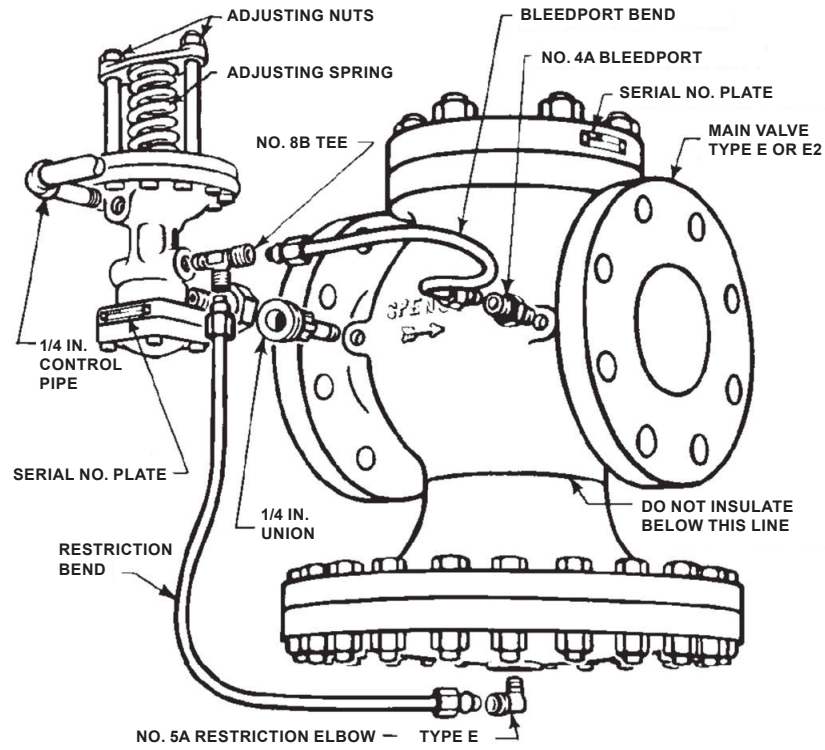

Figure 4. Mounting Pilot on Type E Main Valve
2. Make this connection on the 1/4 in. / 6.35 mm pipe tap at the inlet of the main valve as shown in Figure 4.
5. Connect tubing bends as illustrated in Figure 4. Valves with condensation chamber are fitted up according to Figure 4.